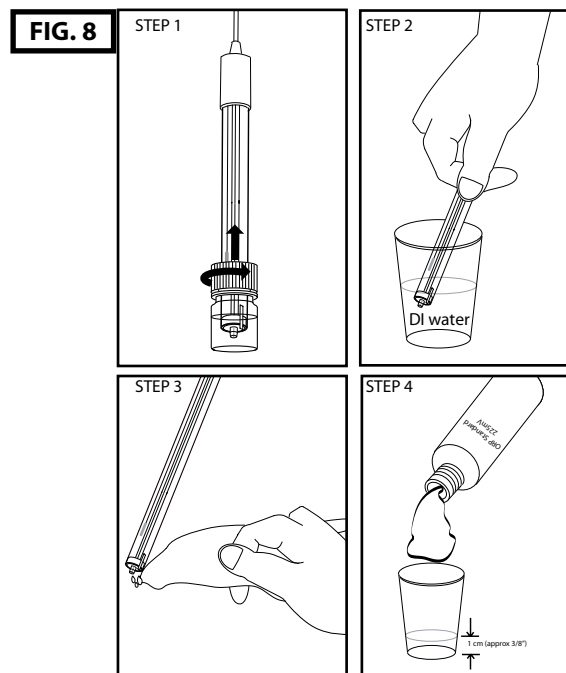

FIG. 9
6. Allow the reading to stabilize and compare it to the standard solution's value. Typically, the readings should agree within 10-15% of the solution's stated value. (see FIG 9)